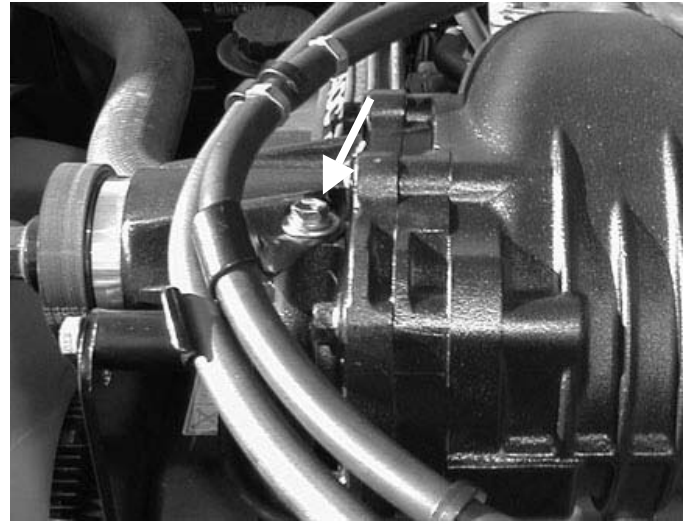

Figure 4
6. Remove the throttle cable/evaporative canister hose bracket from the supercharger (Figure 4).